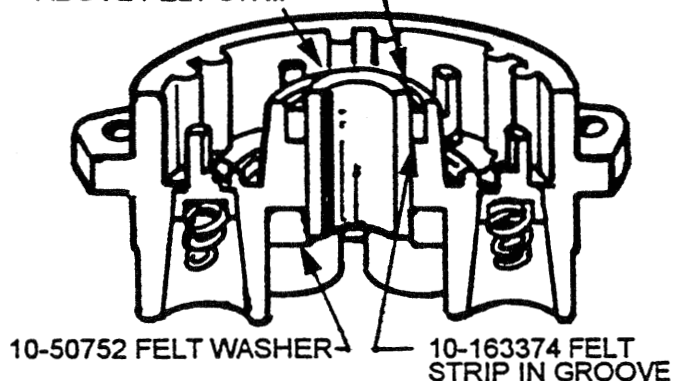
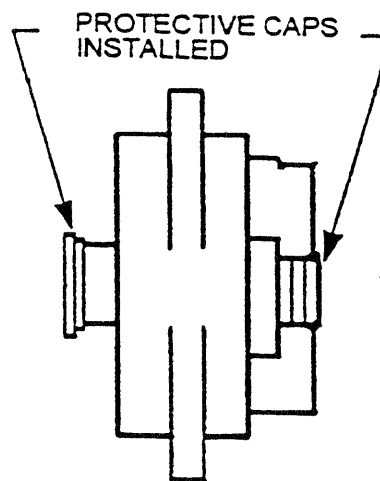

Figure 705. Cutaway View of Distributor Block
Figure 709. Protective Caps Installed.
Current design Distributor Blocks (79) are made of brown polyester material and have part number and batch code molded into the surface on the tower side. Older blocks made of phenolic (black) material or buna rubber (very dark brown, with letters "cc" molded into the tower side of the block) material may be used in unpressurized applications so long as they incorporate annular felt groove (see Figure 705) and pass tests outlined below. For pressurized magnetos, use only brown polyester blocks.
- (1) Install a 10-70506-10S Protective cap over each end of bronze bushing in block (see Figure 709). Brushcoat all surfaces of the distributor block dielectric material with 10-391400 Distributor Block Coating. Do not apply the coating to any exposed surface of the bronze bushing. Allow the block coating to dry for a minimum of 30 minutes before reassembling the block (79) to the housing (48) or gear assembly (72).
- (2) Remove 10-70506-10S Protective Caps from block. Insert a cork stopper in one end of the bushing and fill bushing with 10-391200 Distributor Block Lubricant.
- (3) Using care not to spill oil on coated surfaces, place block in oven. Bake block at 190°F to 210°F for 2 to 3 hours.
- (4) Remove block and oil from oven and allow them to cool to room temperature together. (Oil is absorbed into bushing during cooling).
- (5) Carefully remove cork stopper and allow excess oil to drain from bushing.
- J. For all blocks, install a new dry felt strip (81), in groove on electrode side of distributor block. When strip is properly installed, approximately 1/16 inch of bushing shall be exposed above the strip. See Figure 705.